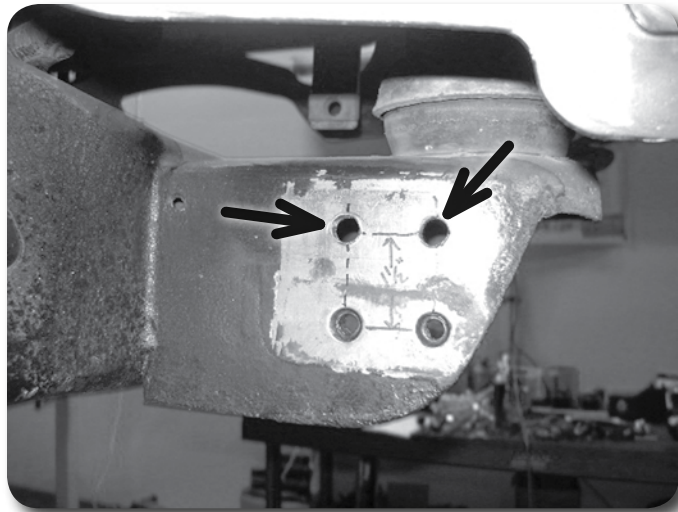

Figure 23
46. Locate the original outside bumper support bracket mount holes on each front body mount. Measure straight up from the center of the holes 1-1/2" and mark. Drill 7/16" holes at the marks (4 total). Figure 23 The brackets will be attached after the bumper is in place.